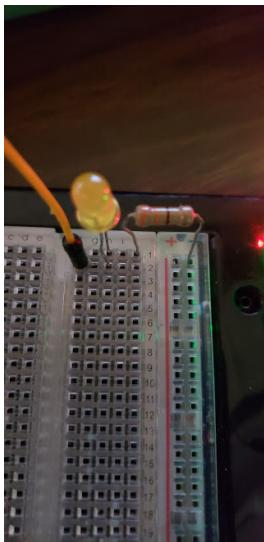

Figure 2. A circuit setup to light up the yellow LED.
- 3 resistors (one shown to the left in *figure 2.*)
- 1 yellow LED shown in *figure 2.* to the left.